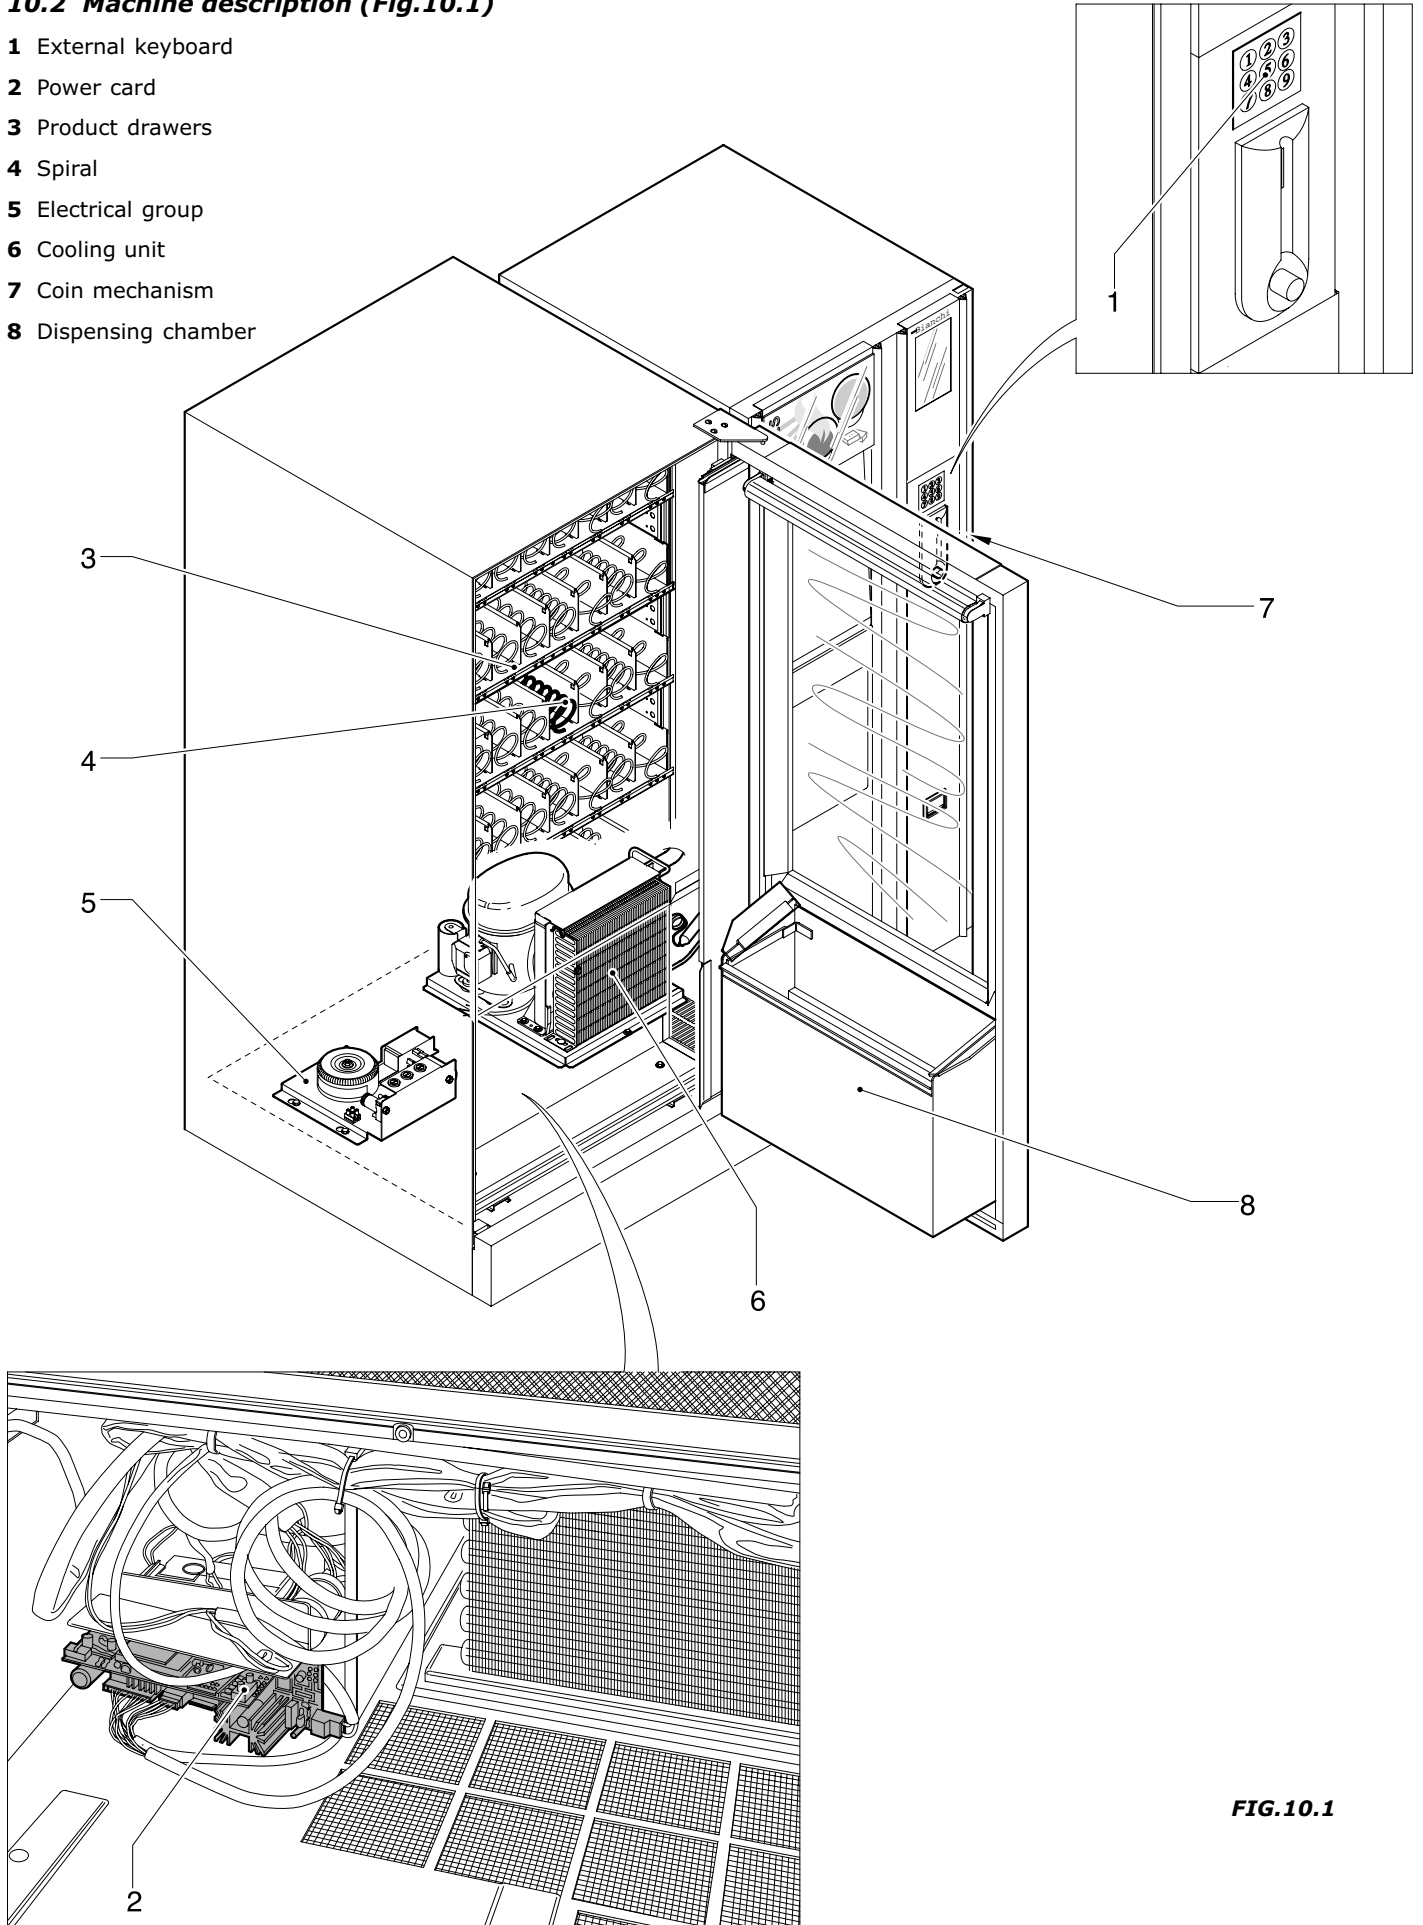

FIG.10.1
10.2 Machine description (Fig.10.1)